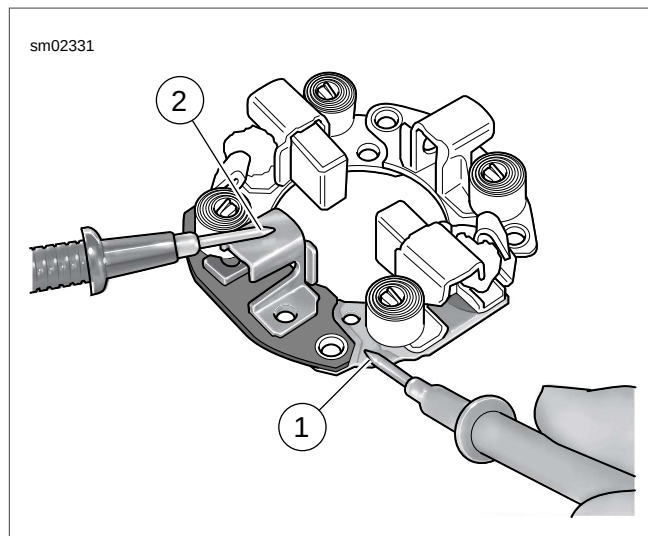

Figure 1-17. Brush Holder Insulation Test
5. See Figure 1-17. Test the BRUSH HOLDER INSULATION with an ohmmeter or continuity tester.